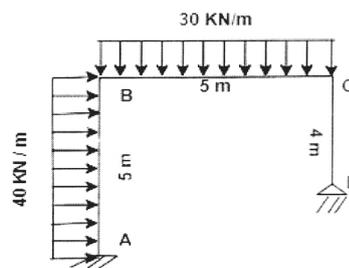

Figure 3
**Q2)** Analyze the frame shown in figure 3 by Slope Deflection Method. Draw BMD. **[17]**